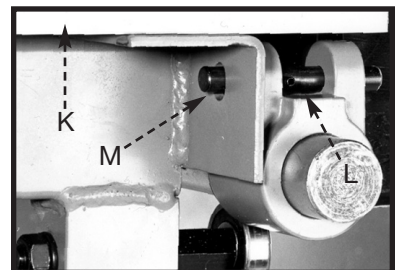

Fig. 38
14. Fig. 38 illustrates the sliding table (K) locked in the forward position. The lock pin (L) is moved to the left through the hole (M) in the table bracket to lock the table in place. To slide the table on the rail, move the lock pin (L) to the right.